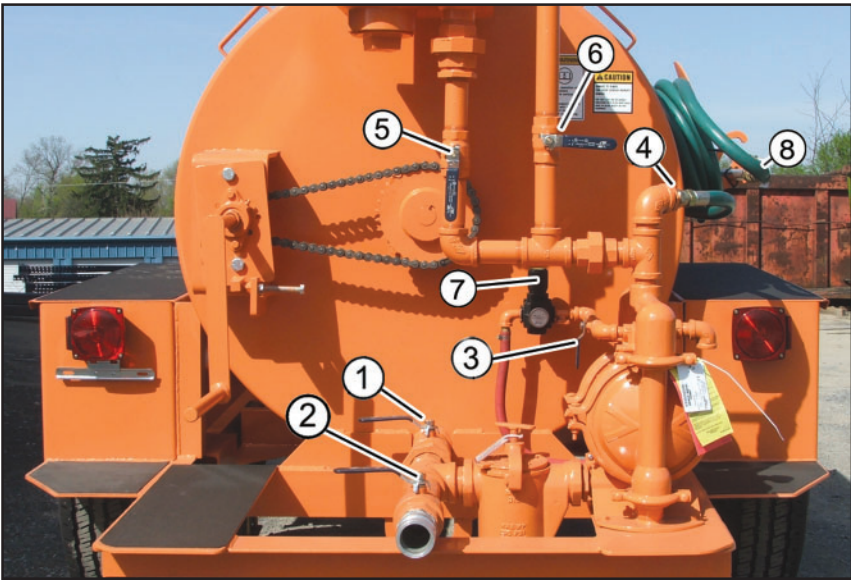

Figure 2-2
The speed of the material pump is variable and is controlled by the regulator control valve (7, Figure 2-2). Rotating the knob clockwise decreases the air pressure; counterclockwise increases the air pressure.
Make sure all ball valves are closed before preparing to spray material. Refer to Figure 2-2 for valve number assignments in these instructions.
Refer to Figure 2-2
3. Once the compressor is running and the air pump is pumping, open valves #1 (1, Figure 2-2) and #5 (5, Figure 2-2) and leave the rest closed until the material pump builds enough pressure and stops stroking. This will signal that the pump is in NEUTRAL.
4. With the pump in NEUTRAL, open valve #4 (4, Figure 2-2) to operate the hand wand. This will pressurize the hose and fill it with material.
5. Open the ball valve on the hand wand (8, Figure 2-2) and start spraying with the sealing material. If two hand wands are used, they may be turned on and off independently of each other.
6. While the operator sprays, the helper should be controlling the flow of the material into the pump assembly. To achieve the desired flow, turn the air regulator control knob (7, Figure 2-2) clockwise until the flow is too high and then back off on the speed of the pump by turning the knob counterclockwise to achieve the desired spray. (This procedure eliminates extra wear on the pump.)
8. For a long idle period (spraying will be resumed), or when finished using the hand wand(s) for the day, such as when a job is finished, close ball valves #1 (1, Figure 2-2) and #5 (5, Figure 2-2). Return the hose and hand wand to their resting place on the side of the machine. (If all seal coatings have been applied with sand mixtures, the only time it will be necessary to flush out the complete system with water is if the machine will sit idle for a prolonged period of time, or for winterization. (See “Winterizing Procedure” on page 5-18 in *Section 5, Maintenance*.)
Anytime there is a change in the compound being used, the material pump needs to be adjusted with the air regulator (7, Figure 2-2). Do not set the speed control and leave it in the same position as it could over-pressurize the pump causing it to wear out prematurely. The material pump is the most important part of the machine. When operated correctly, its lifetime will be maximized.
2. Attach a 15-foot (4.57 meter) quick connect hose to the suction port (at ball valve #2 Figure 2-2), place the other end in the drum or container of sealer.
3. Open ball valve #2 (2, Figure 2-2) and ball valve #6 (6, Figure 2-2).
4. Start the machine's compressor and turn valve #3 (3, Figure 2-2) to the ON position.
2. Once the material is remixed, open ball valve #1 (1, Figure 2-2) to allow the mixture to flow into the plumbing.
3. Open recirculation ball valve #6 (6, Figure 2-2) and valve #3. The mixture is now pumped through the pump and plumbing and back into the tank. The separated sealer and sand is now replaced throughout the system with the thoroughly mixed material.
5. Shut OFF recirculation ball valve #6 (6, Figure 2-2) and valve #3.
6. Remove the spray nozzle from the tip of the hand wand. Introduce the fresh mix through the hose and wand by opening the hatch (see Figure 2-3) at the top of the machine, placing the wand into the hatch opening letting it catch in one of the holes in the inner hatch cover, opening the hand wand ball valve (1, Figure 2-2) and turning valve #3 back ON.